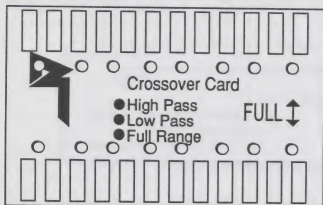

Figure 1
The field programmable module is used in Punch and Series 1 amplifiers as well as Punch electronic crossovers. It consists of a small printed circuit (PC) board that accepts standard 5% and 1% resistors as the method of programming (Figure 1). The value of the resistors on the PC board will determine the crossover point. Connection to the amplifier/crossover motherboard is made via the board edge contacts or "fingers" on one edge of the module. The crossover slope is fixed at 12dB per octave but the alignment can be Butterworth or Bessel or another "Q" value.